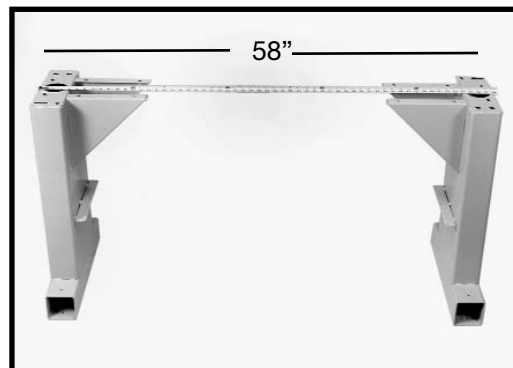

Fig. 5
2. Set pedestals exactly 58” apart (Fig. 5).